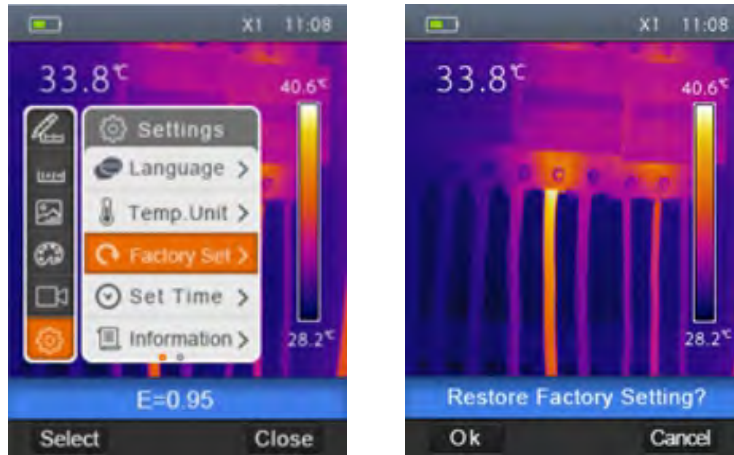

Fig. 10: Setting default conditions on the instrument
1. Select the item “Factory Set” with the keys \oplus or \ominus and press the key $\left[\right]$. The screen of Fig. 10 – Right side is shown on the display.